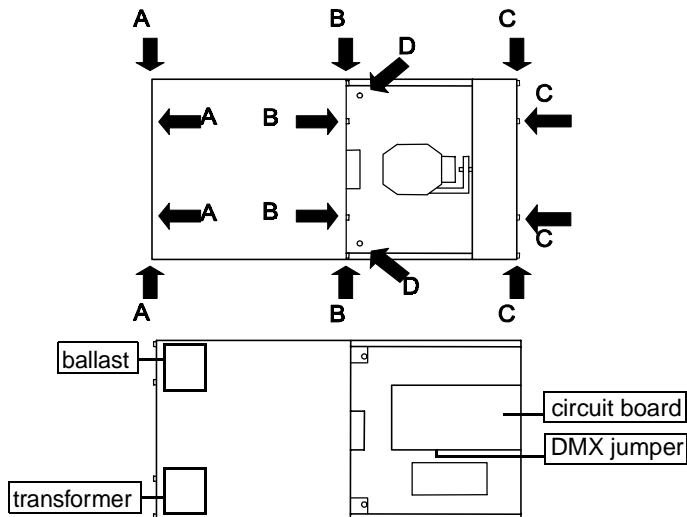

Figure 1
1. Remove the 6 screws labelled 'D' and 'C' in figure 1 and carefully remove the complete pan/tilt section. Avoid unplugging the motor cables from the circuit board.
1. Unscrew the 8 screws, labelled 'A' and 'B' in figure 1, that secure the casing over the lamp housing, and remove the casing.
2. Locate the ballast at the rear-left corner (see figure 1) and move the GREY wire, labelled 'F', to either the 50 Hz or the 60 Hz terminal to select the local frequency.
2. Locate the ballast at the rear-left corner (see figure 1) and move the GREY wire, labelled 'V', to either the 220 V, 230 V, or 250 V terminal to select the local AC voltage.